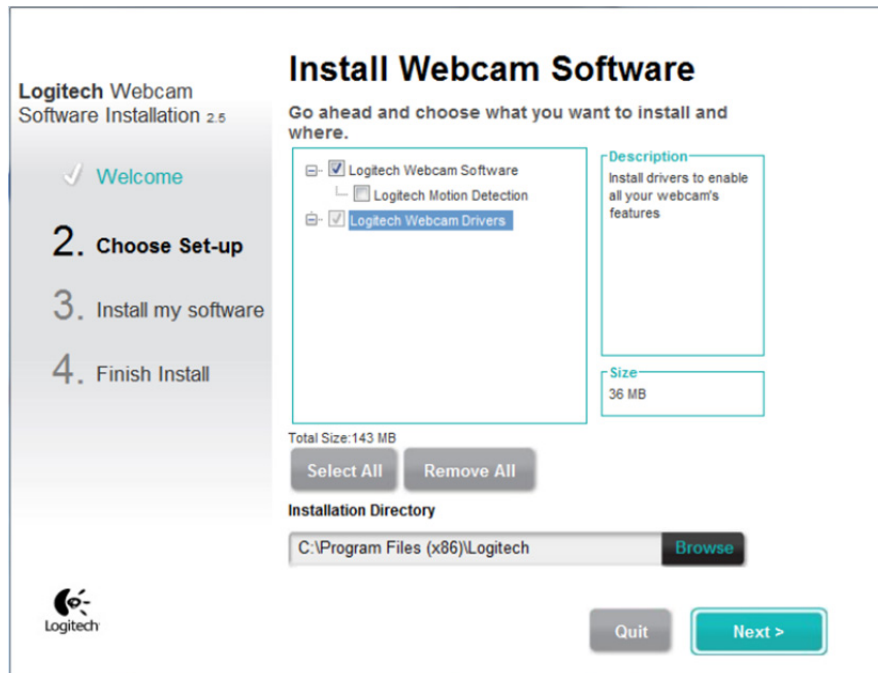

Figure 1. Logitech Webcam Drivers installation window
- 6 On the 'Install Webcam Software' screen (see Figure 1):